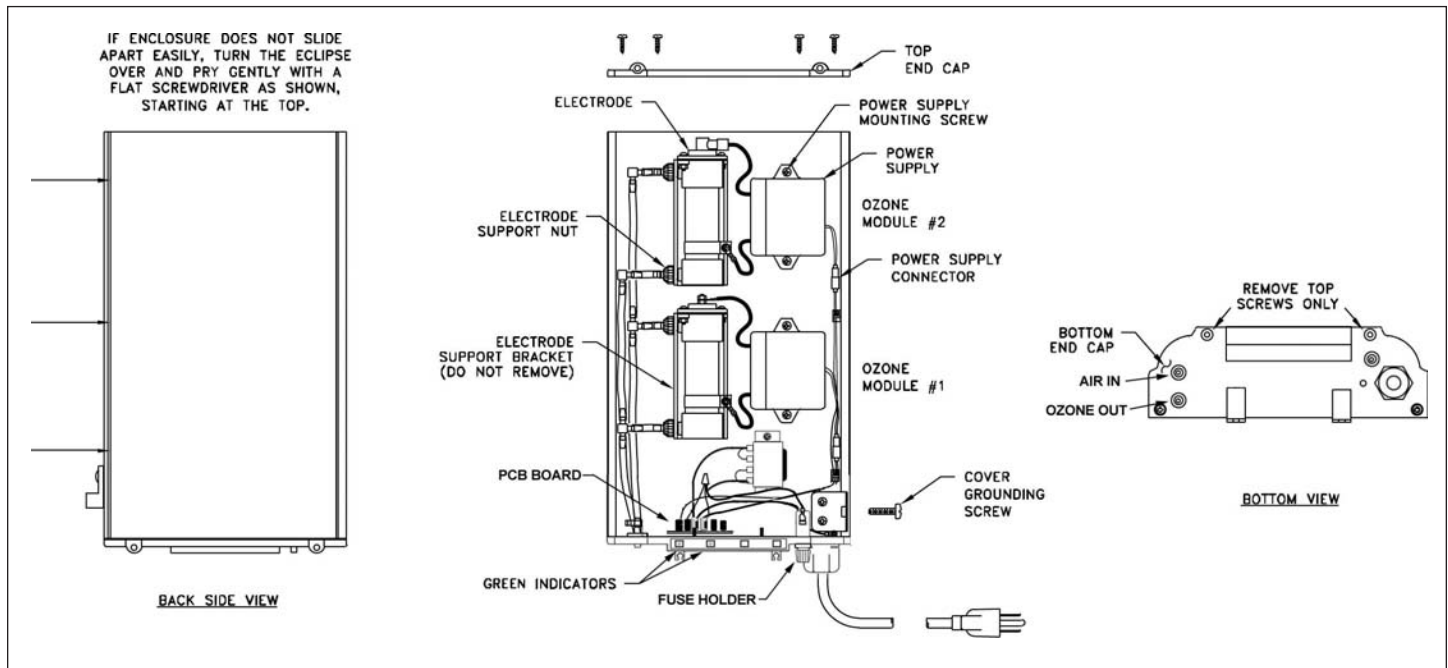

Figure 4 Component Locations (DELZONE® Eclipse-2 Shown)
4. The base of the DELZONE® Eclipse has two hose connections. Connect the 1/4" end of the ozone supply tubing to the port marked "OZONE OUT" (see Bottom View - Figure 4).
Refer to Figure 4.
4C Generator Servicing - Refer to Figure 4
NOTE: If the two halves do not slide apart easily, turn the DELZONE® Eclipse over and use a screwdriver to pry the cover off as shown in Figure 4.